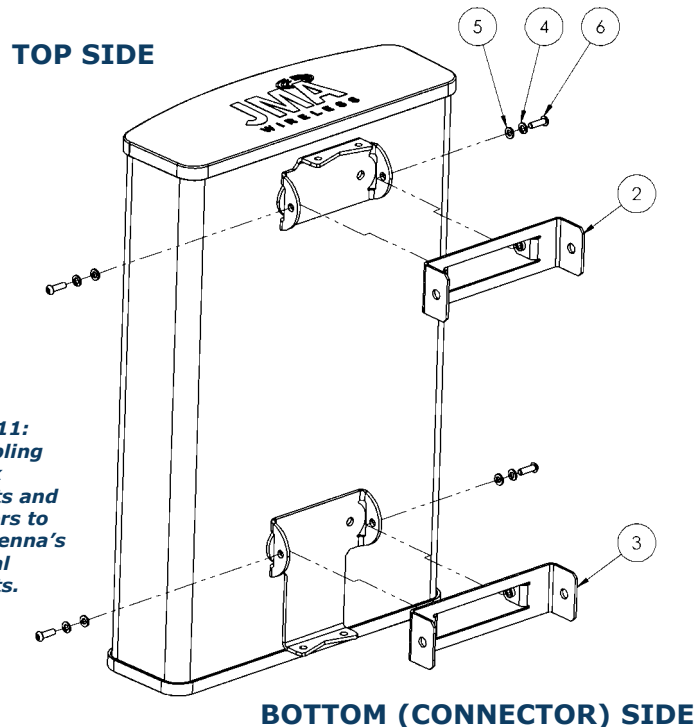

Figure 11:
1. Install Item #2 DX10 MX LINK BRACKET, NARROW, to the top external bracket of the antenna and secure it with the fasteners 4, 5, 6 as represented in *Figure 11*.
2. Install Item #3 DX10 MX LINK BRACKET, WIDE, to the bottom external bracket of the antenna and secure it with the fasteners 4, 5, 6 as represented in *Figure 11*.